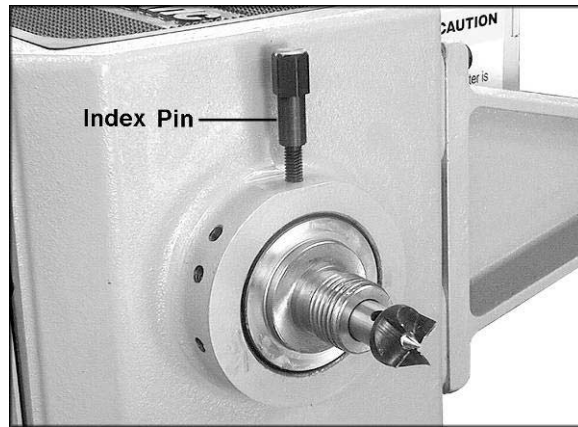

Figure 18
There are 12 holes in the spindle collar spaced 30° apart, and 4 holes in the headstock casting which accept the index pin (see Figures 18 and 19). The combination of holes will allow you to mark your workpiece for evenly spaced features.
1. To use the indexer, thread the index pin (Figure 18) into one of the four holes until the index pin engages the spindle and prevents it from turning. This will be your first indexing position.